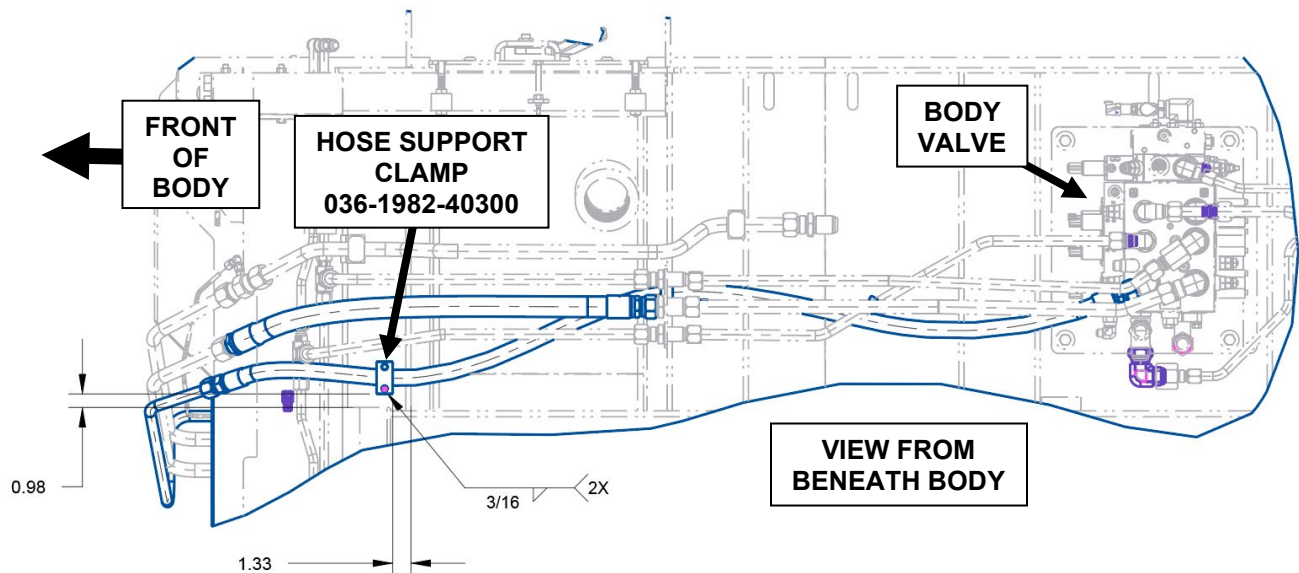

Figure 6. Install Front Head Hydraulic Hose Support Bracket (Measurements Shown in Inches)
(1) Weld new Hose Support Clamp (036-1982-40300) onto the body crossmember as shown in **Figure 6** (without the hose installed). Once cooled, sand welds smooth, remove any weld spatter, and then clean and paint all exposed metal and weld.